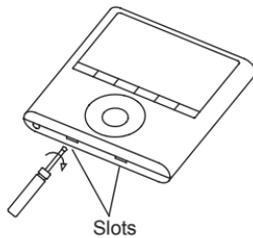

Fig 3-5
- Remove the upper part of the wire controller (Fig.3-5)